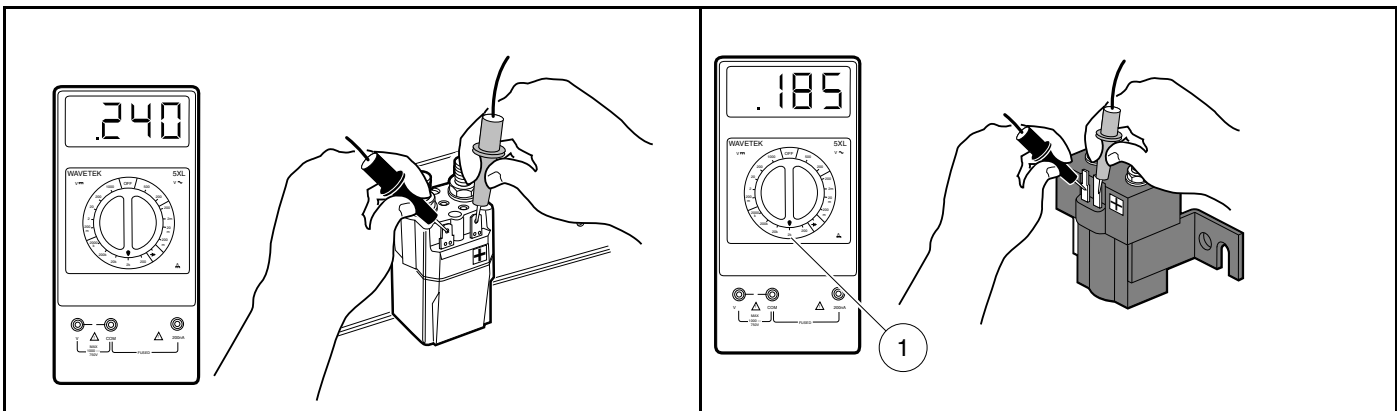

Figure 12-11 Activating Coil Test – Factory-installed Solenoid
- A reading of 200 to 250 ohms should be obtained for factory-installed solenoids (**Figure 12-11, Page 12-24**). If not, replace the solenoid.